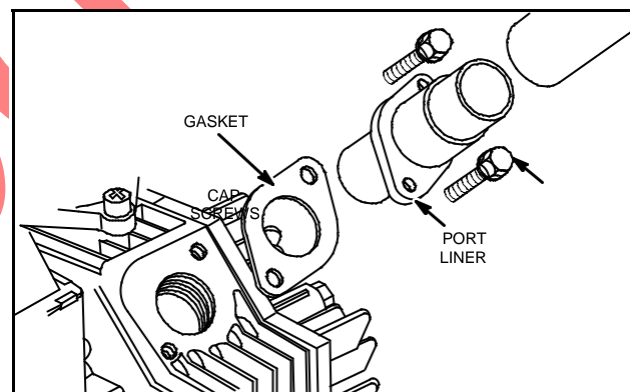

Fig. 14 – Install Port Liners
1. Install lock nut on nipple with tangs toward shoulder, Fig. 14.
3. Tighten lock nut securely, not more than two (2) threads should be showing, Fig. 14.